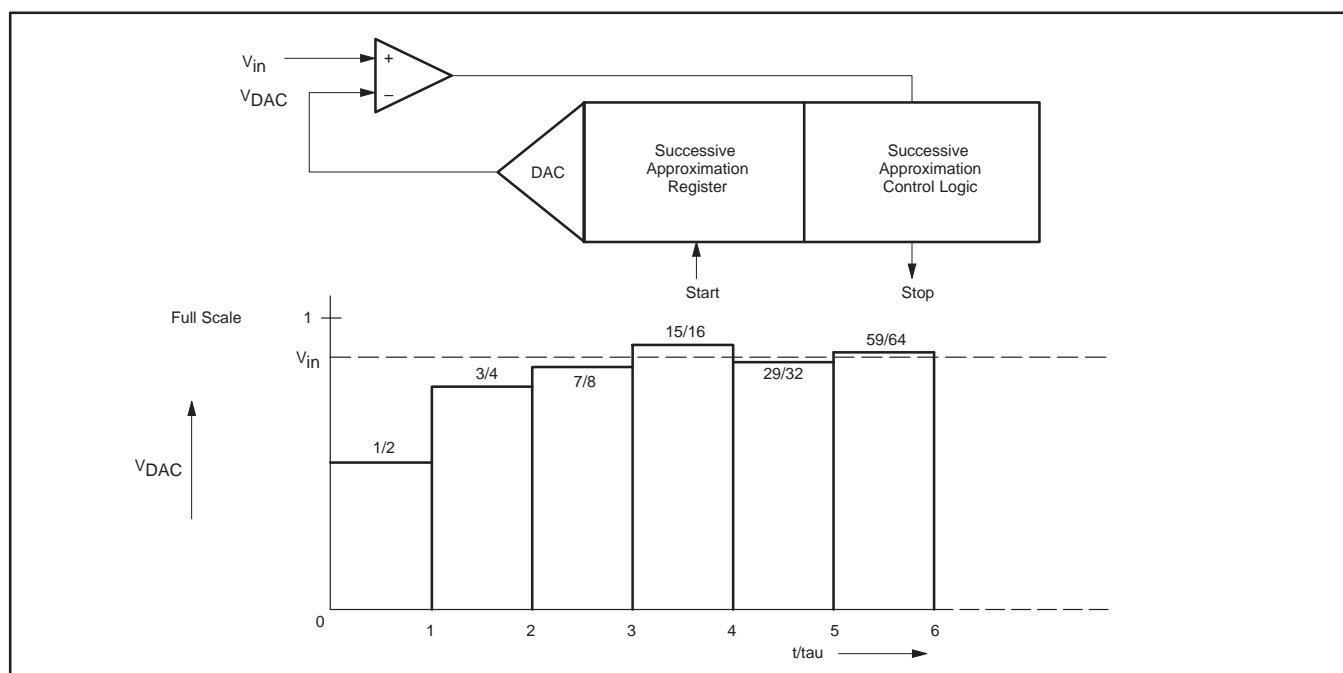

Figure 35. Successive Approximation ADC
Analog-to-Digital Conversion: Figure 35 shows the elements of a successive approximation (SA) ADC. The ADC contains a DAC which converts the contents of a successive approximation register to a voltage (V_{DAC}) which is compared to the analog input voltage (V_{in}). The output of the comparator is fed to the successive approximation control logic which controls the successive approximation register. **A conversion is initiated by setting ADCS in the ADCON register.** ADCS can be set by software only or by either hardware or software.